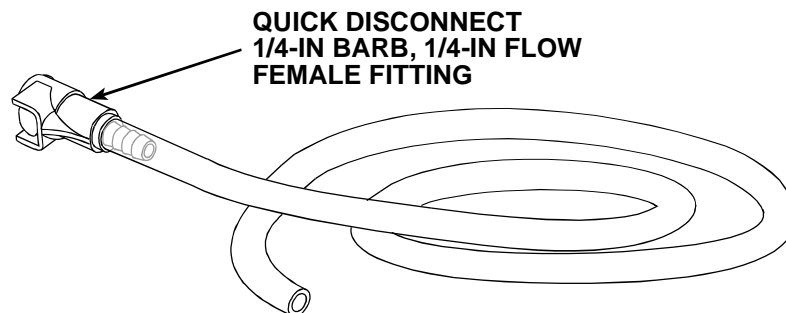

Figure 9 Ink PH Return Tubing Assembly (9600-783)
- 9600-783 ink ph return tubing assembly (*Fig. 9*)